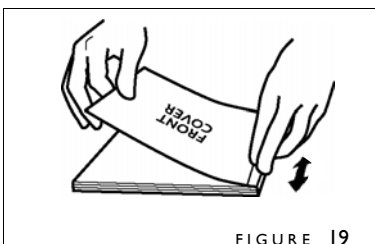

FIGURE 19
7. Now fold the cover tightly all the way over the top of the book block. Rub back and forth on the top near the spine (figure 19) to secure the adhesive beneath the cover.